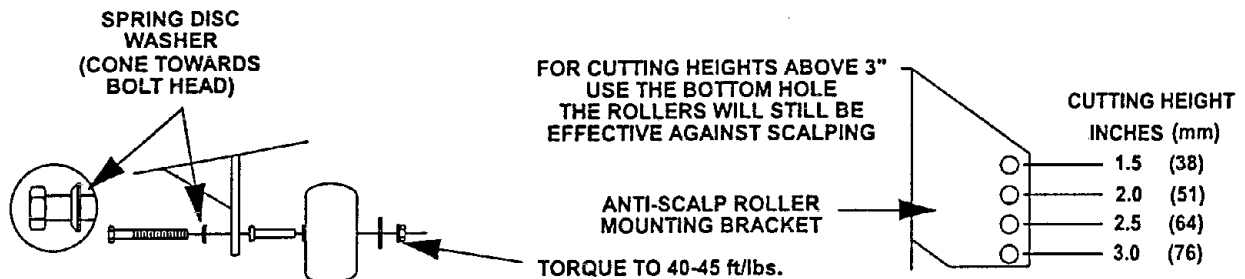

FIG. 3
- The 52" decks use anti-scalp rollers. For maximum deck flotation, place rollers in one of the positions shown in Figure 3. Roller should maintain 1/4 in. (6.4 mm) clearance to ground. **DO NOT** adjust rollers to support deck. Be sure *bolt is tightened properly* or loss of anti-scalp roller may result.